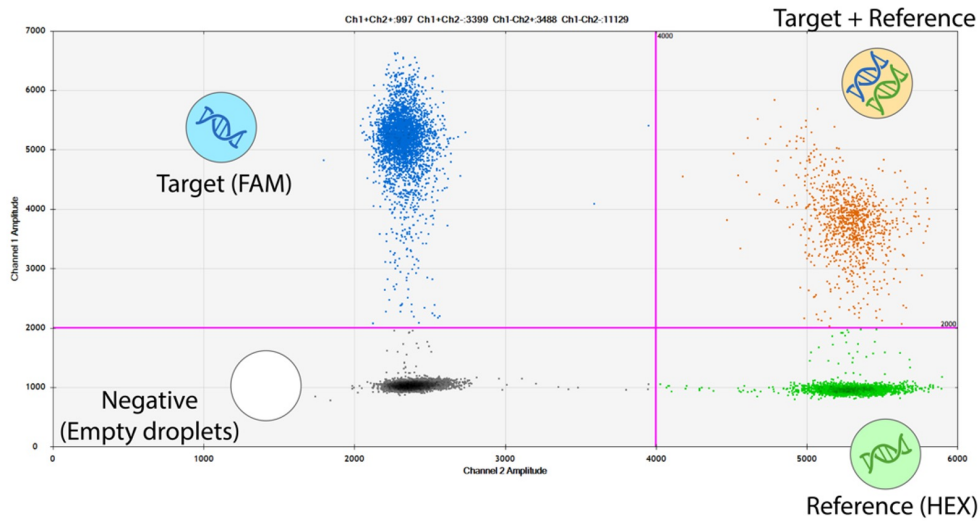

Figure 7. ddPCR 2-D plot ^[1,6]
6. Data from Figures 7 are generated from Bio-Rad QuantaSoftTM Analysis Pro Software